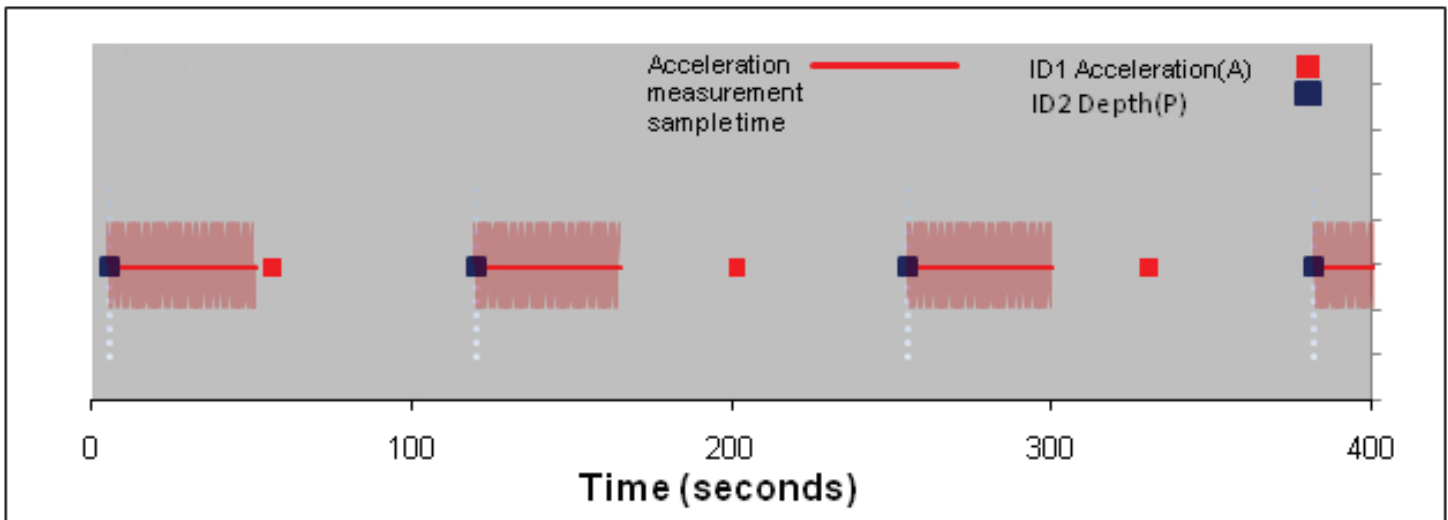

Figure 3: Example of sampling and transmission format for the V9AP. For the V9A, acceleration would be sampled for every delay cycle.
We have provided some programming flexibility in the design of this transmitter owing to the variability in swimming behavior of a wide range of species, benthic to pelagic. The programming parameters are Average Delay (sec) and the size of the acceleration sampling window (T) in seconds. The V9AP coded transmitter functions like all standard VEMCO two-sensor coded transmitters. It has two coded tag IDs one for the depth sensor and one for the accelerometer. The acceleration measurement is sampled over a period T. Figure 3 illustrates the sampling and transmission format. Immediately after the tag transmits an ID and pressure value (blue square), the tag begins the acceleration measurement (red line). After T seconds of measurement, the RMS